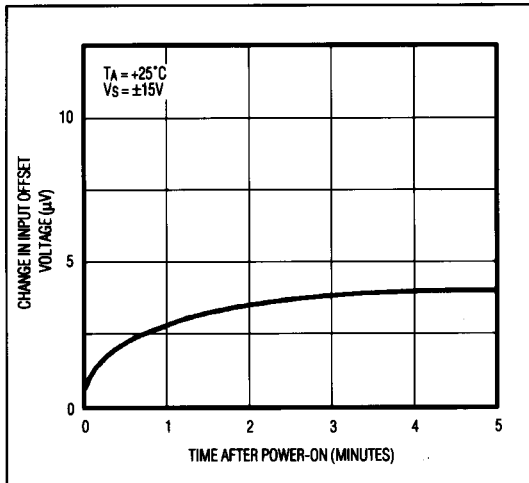

Figure 5. Warm-Up Offset Voltage Drift
1. The device must warm up for at least five minutes. Figure 5 shows how V_{OS} typically increases $4\mu V$ with increases in chip temperature after power-up. In the 10sec measurement interval, temperature-induced effects can exceed 10nV.